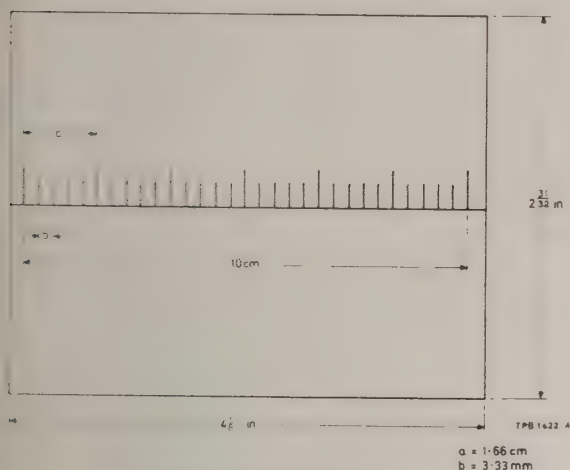

Fig. 5.19 Oscilloscope graticule
- Oscilloscope graticule, see Fig. 5.19.